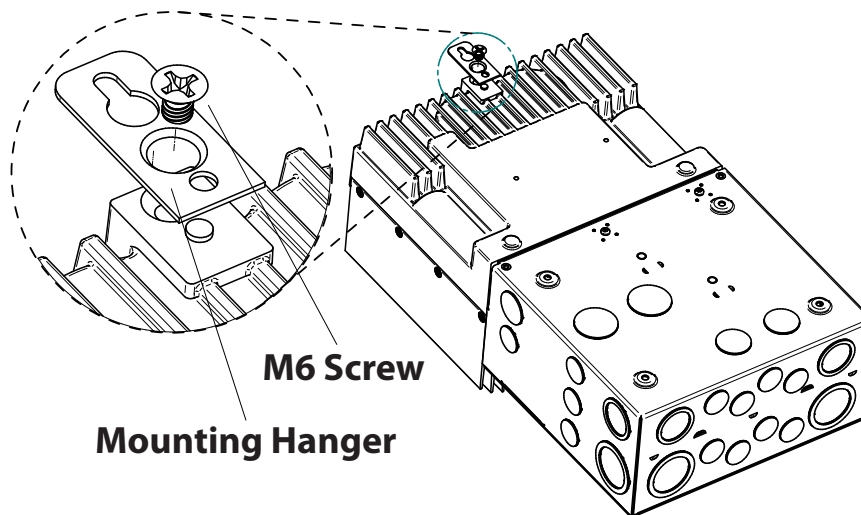

Figure 3-10. Attaching the mounting hanger
1. Attach the mounting hanger to the bottom of the TriStar MPPT 600V with the M6 screw provided as shown in figure 3-10.